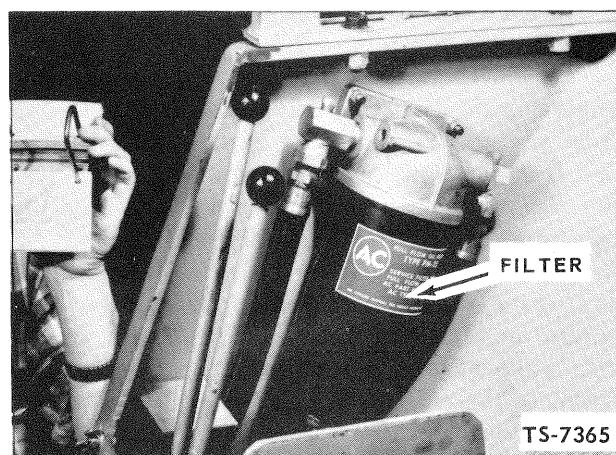

Fig. 7 Transmission and Torque Converter Filter Position
4. Replace the element in the transmission and torque converter filter assembly. (See Fig. 7 for the position of the filter assembly.) Thoroughly clean the filter case and base casting before installing a new element. Use a new gasket in the base casting and tighten the center bolt to 50 ft. lbs. torque.
fluid through the filler neck (See Fig. 7 on Page 17) until the correct level shows on the dipstick. Approximate capacity—4.5 gallons (Imperial measure), 5.4 gallons (U.S. measure.).